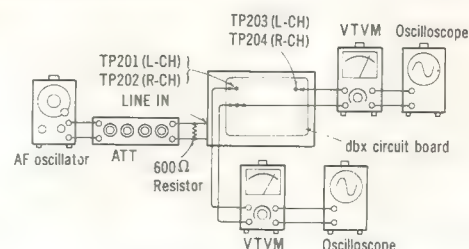

Fig. 15
1. Make the connections as shown in fig. 15, and apply 100 Hz — 27 dB signal from LINE IN.